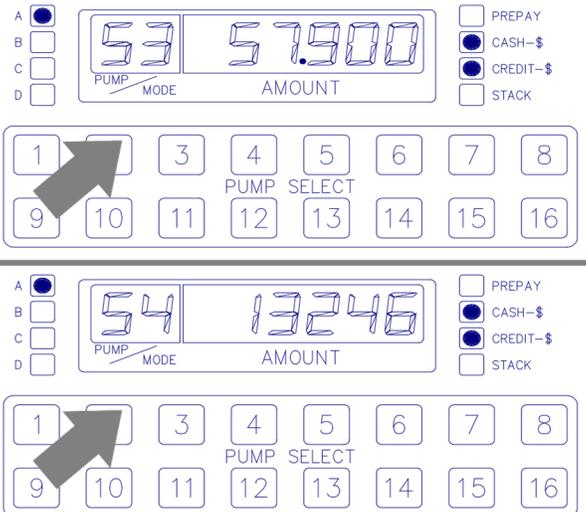

Figure 11
Figure 11 shows the total that would be displayed in MODES 53 and 54 for the first hose (A) at fueling position 2, if the volume totalizer read 1324657.9.